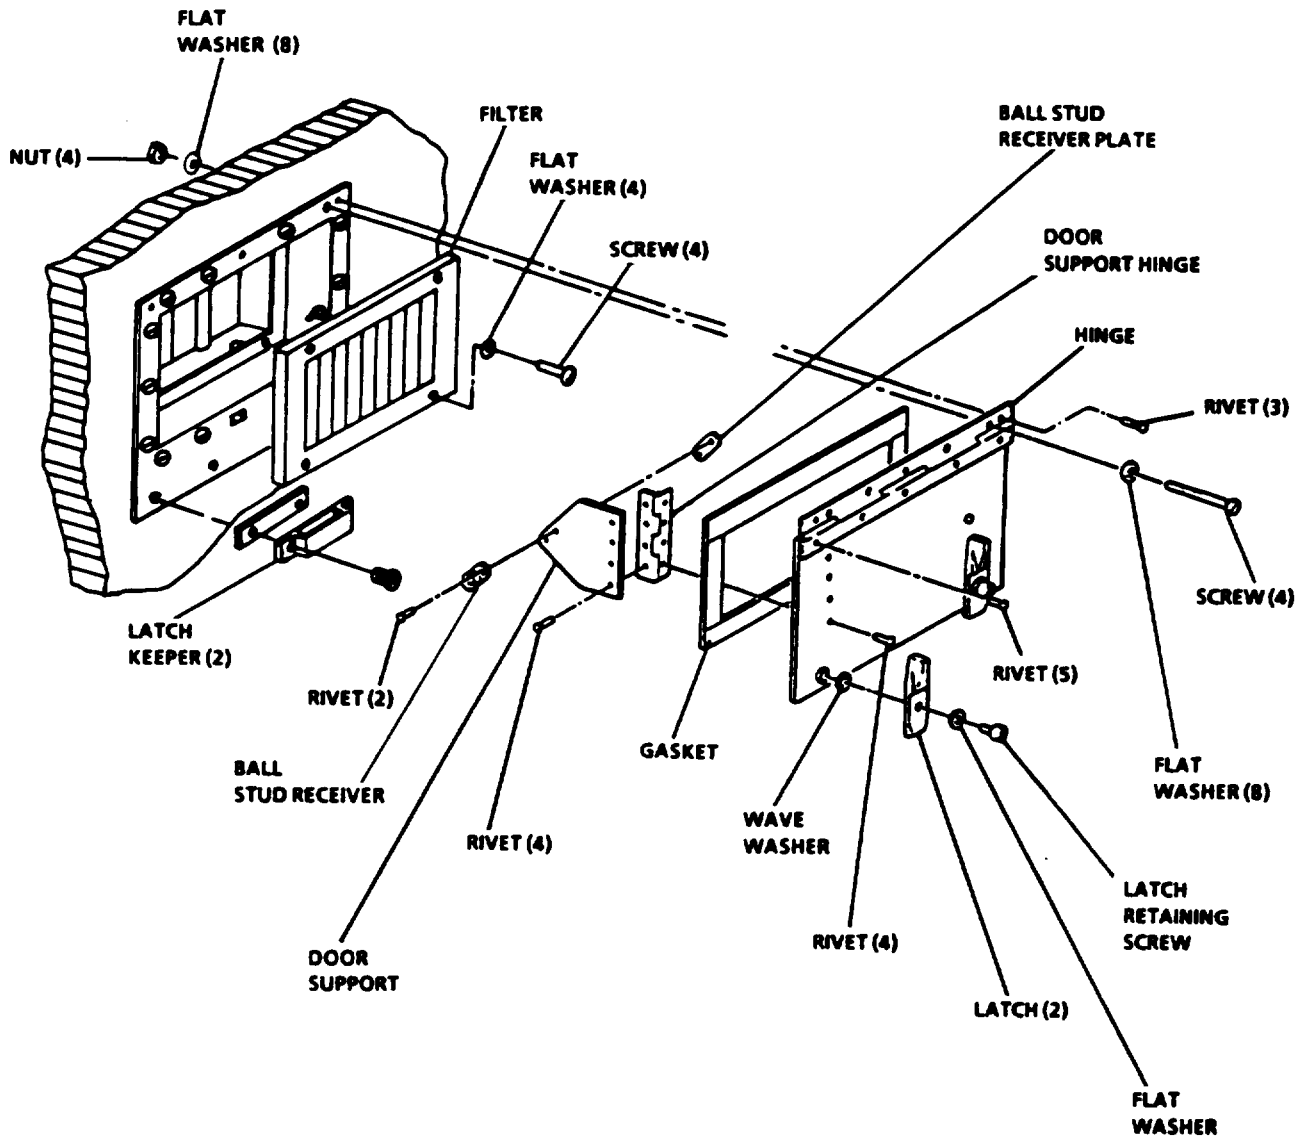

Figure 4-5. Purge Port Door
1. Install door latch and wave washer. See figure 4-5.
2. Install latch keeper. See figure 4-5.
3. Install door support, support hinge, and ball stud receiver. See figure 4-5.
4. Install purge port door weatherstripping. See figure 4-5
5. Install purge port door and hinge. See figure 4-5